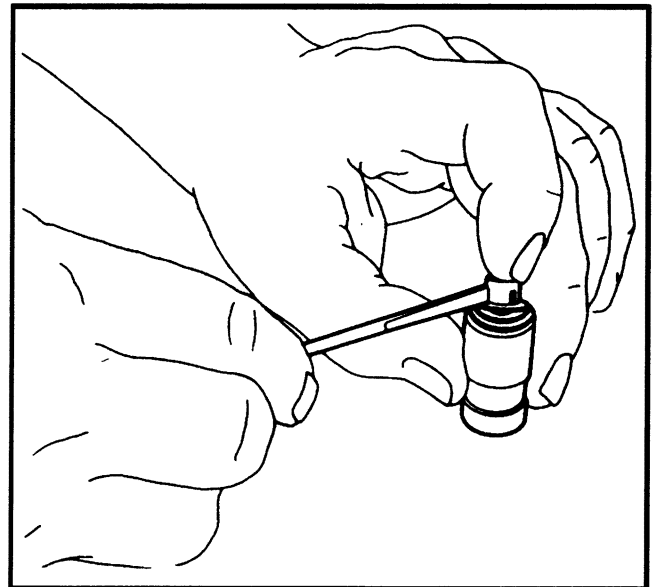

FIGURE 14. REMOVE THE CHECK BALL ASSEMBLY
4. See FIGURE 14. Use a small screwdriver as a prybar to remove the check ball retainer from the plunger.